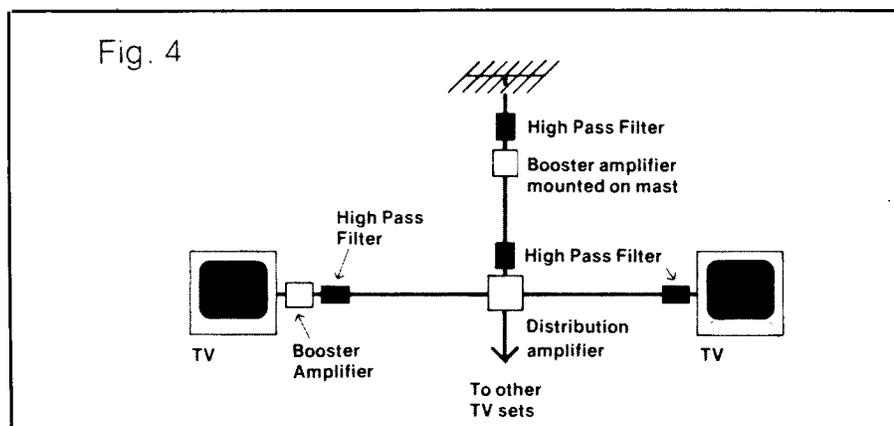

Fig. 4
antenna system, you should have a filter installed ahead of the amplifier and another filter ahead of the TV receiver input terminals (see Figure 4). If the amplifier is located close to the receiver, then install the filter before the amplifier only.
e. If you have an amplifier in your antenna system, you should have a filter installed before the amplifier and another filter ahead of the TV receiver input terminals (see Figure 4). If the amplifier is located close to the receiver, then install the filter before the amplifier only.